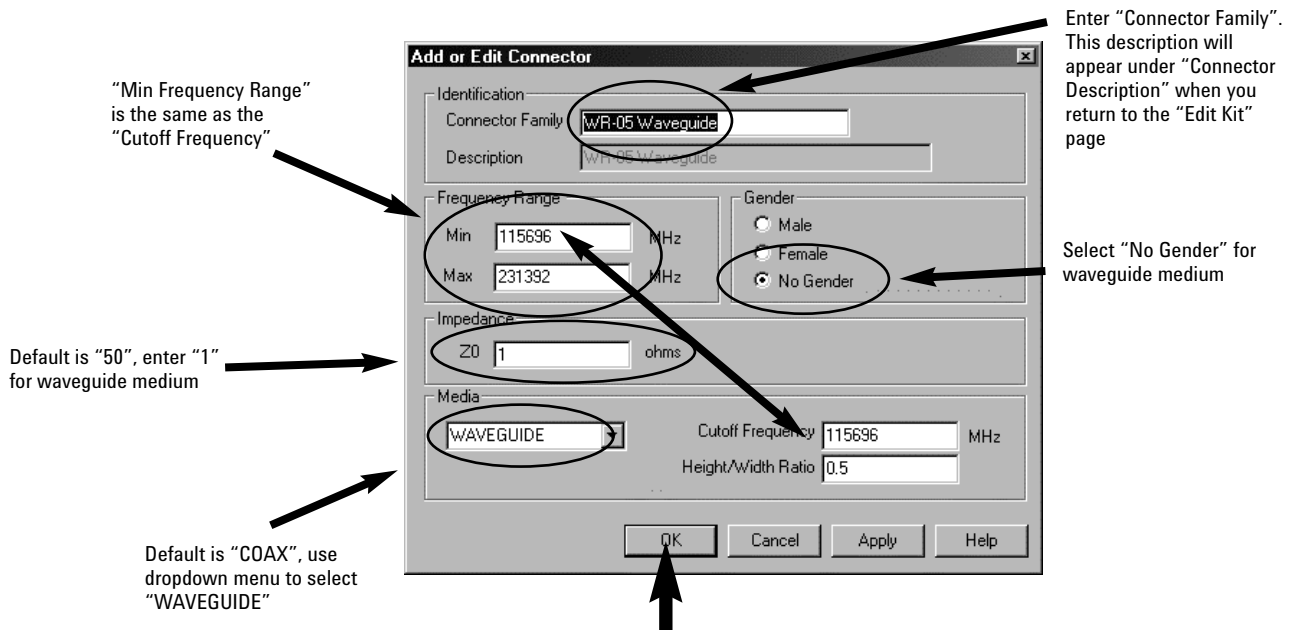

Figure 28. Enter connector (WG) description.
3. Enter "Connector Family," "Frequency Range" (Min. frequency = Cutoff frequency), 1 for "Z0," select "No Gender," and "WAVEGUIDE" (Figure 28)